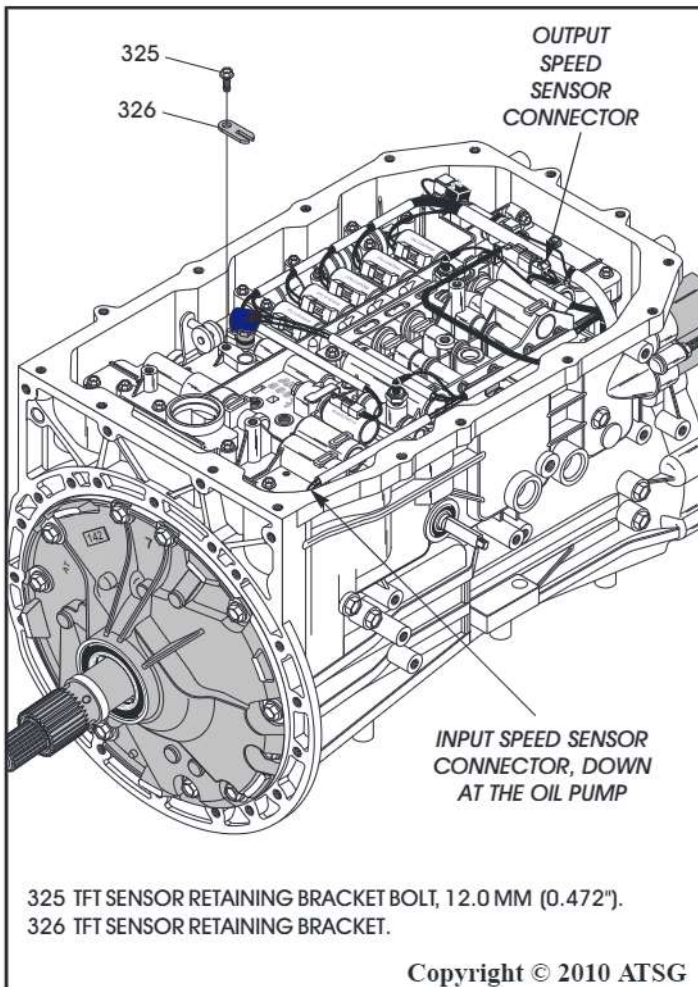

Figure 47
18. Remove the TFT sensor retaining bracket bolt and remove the sensor from valve body bore, as shown in Figure 47.
Note: Before removing any solenoid connectors both switch connectors (if used) and White OSS connector, as shown in Figure 47.
19. Disconnect all solenoid connectors, both switch connectors (if used) and White OSS connector, as shown in Figure 47.
20. Disconnect Yellow connector from ISS located on the oil pump, as shown in Figure 47.